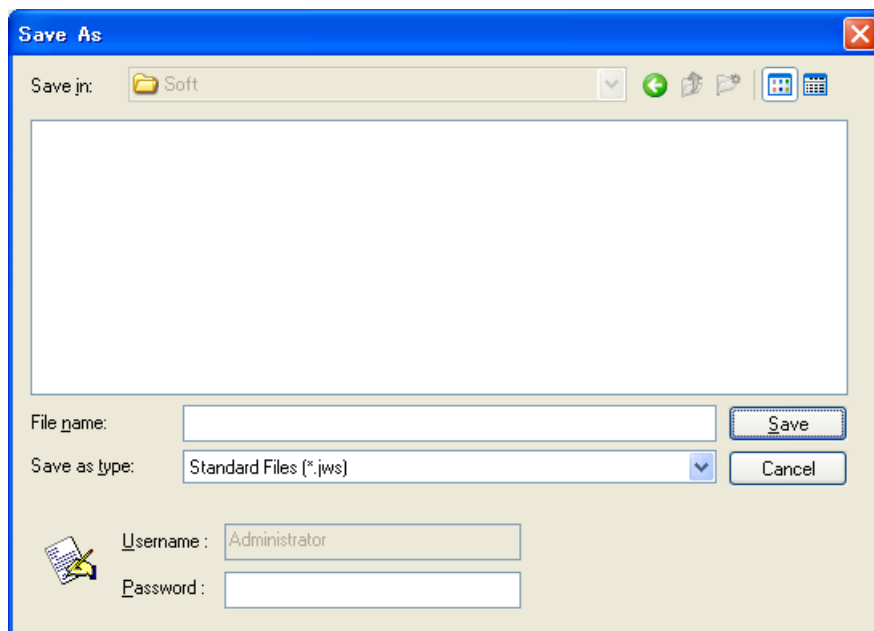

Figure 2.11 [Save As] dialog box
(1) Select [File] – [Save As] to display the [Save As] dialog box (Fig.2.11).